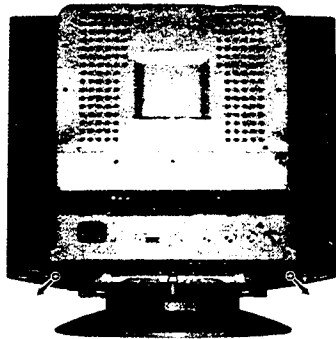

Figure 6-2
- 2) Position the cabinet bottom and replace the two screws (see figure 6-2)